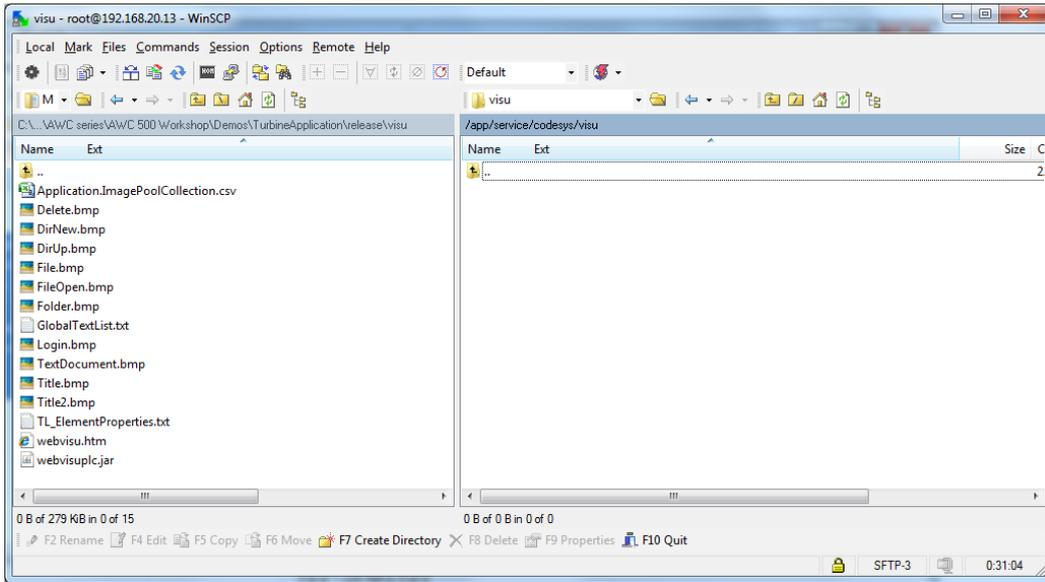

Figure 1.28: Remote upload procedure, "visu" folder
8. Upload the new visualization files from \release\visu to /app/service/codesys/visu, see Figure 1.28